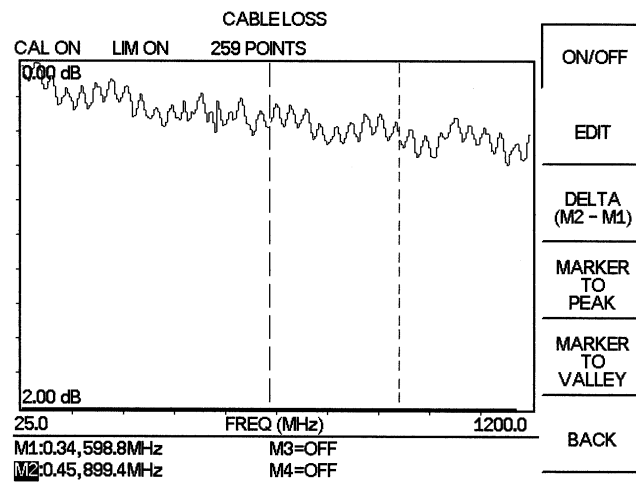

Figure 4-7. Cable Loss Measurement Results
Step 36. Repeat steps 1 and 2 for marker M2. Set M2 to 900 MHz (Figures 4-7 depicts a Cable Loss measurement).